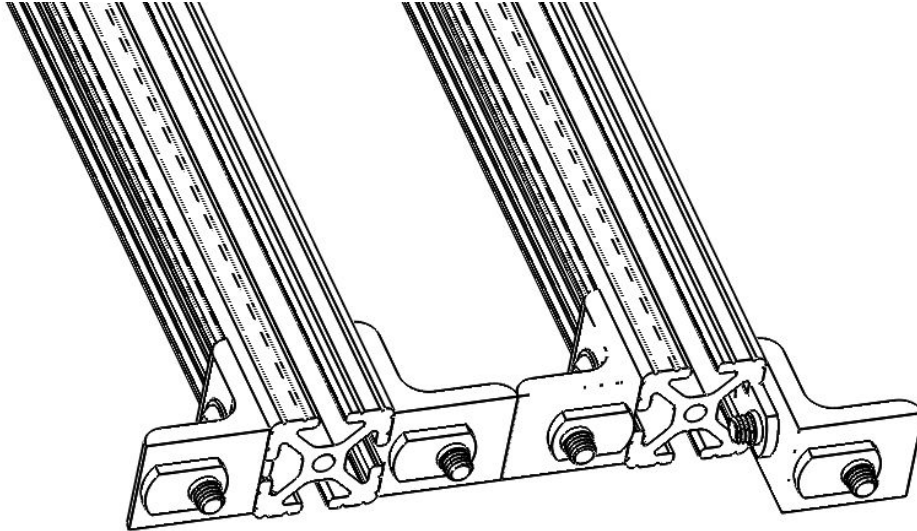

Fig. 3.11: Four corner brackets (#REGC) with end-feed fastener on 4ft beam (#HJXQ)
- Insert the corner brackets into the slots on the left and right side the two **4 feet** beams (#HJXQ), as shown in Fig. 3.11. Don't tighten the screw with the end-feed fastener completely in order to allow the corner brackets slide in the groove.
- ❑ Repeat the previous step to place corner brackets on another beam (#HJXQ), as shown in Fig. 3.11.